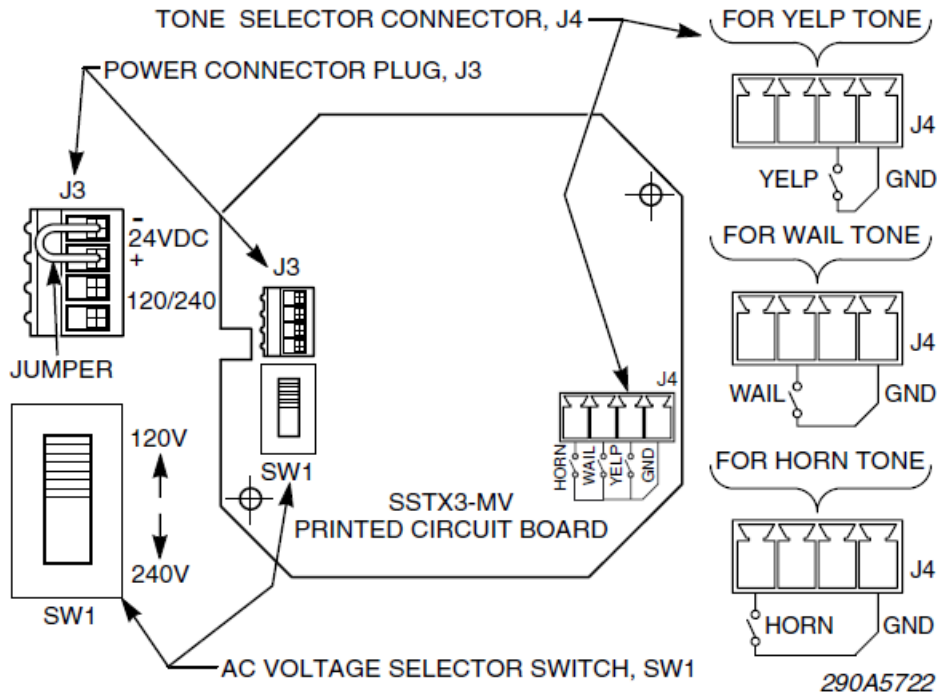

Figure 7 - SSTX-MV printed circuit board
The tone for the siren is set using tone selector jumper J4 (Figure 7).
- 3) Set jumper 4 on PCA according to Figure 7.